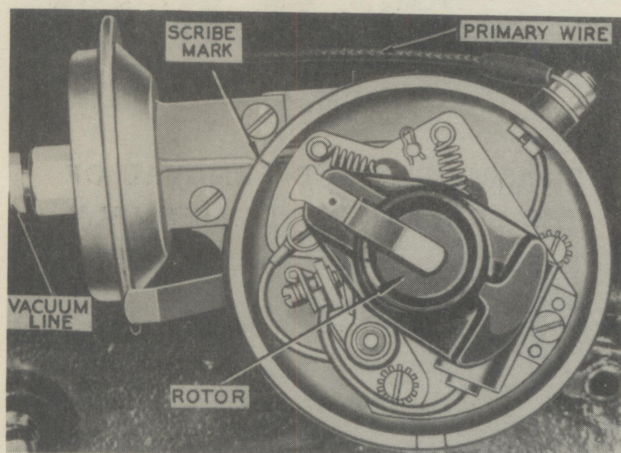

Fig. 2
1. Disconnect the primary wire and vacuum line (Fig. 2). Loosen the distributor clamp lock screw (Model 1201) or remove the hold down bolt (Model 1209 and 1214).